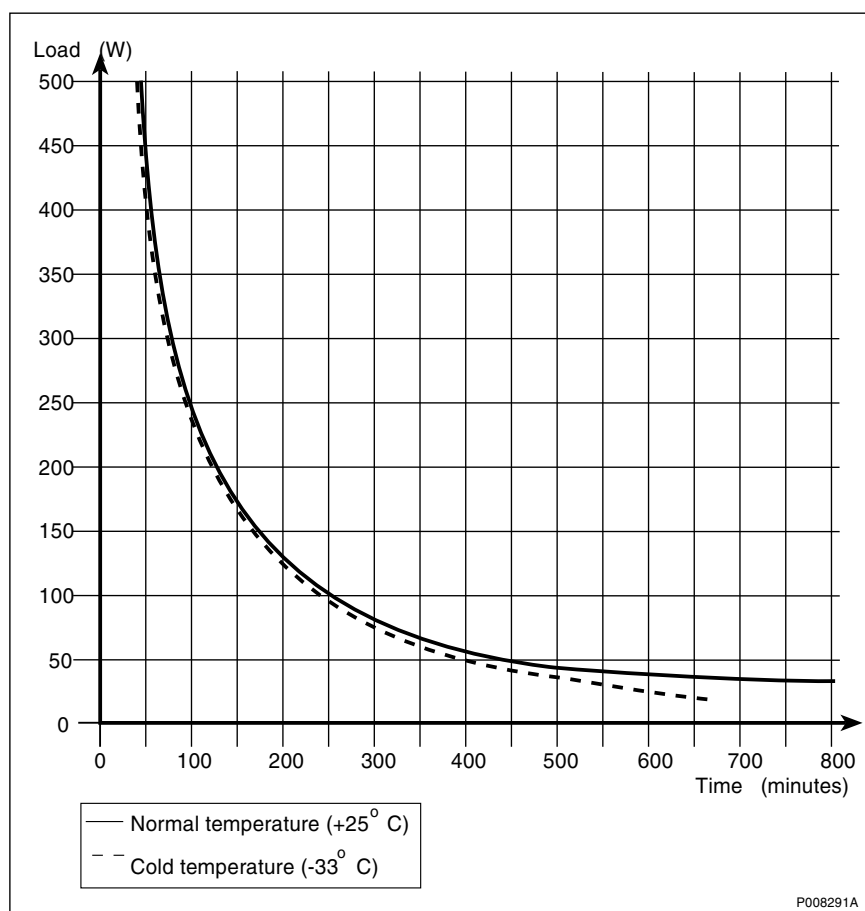

Figure 414 Power consumption graph
- typical back-up time, add the values in the column “Battery Power Consumption Typical” and check the corresponding value in *Figure 414 on page 412*.
- guaranteed back-up time, add the values in the column “Battery Power Consumption Guaranteed” and check the corresponding value in *Figure 414 on page 412*.